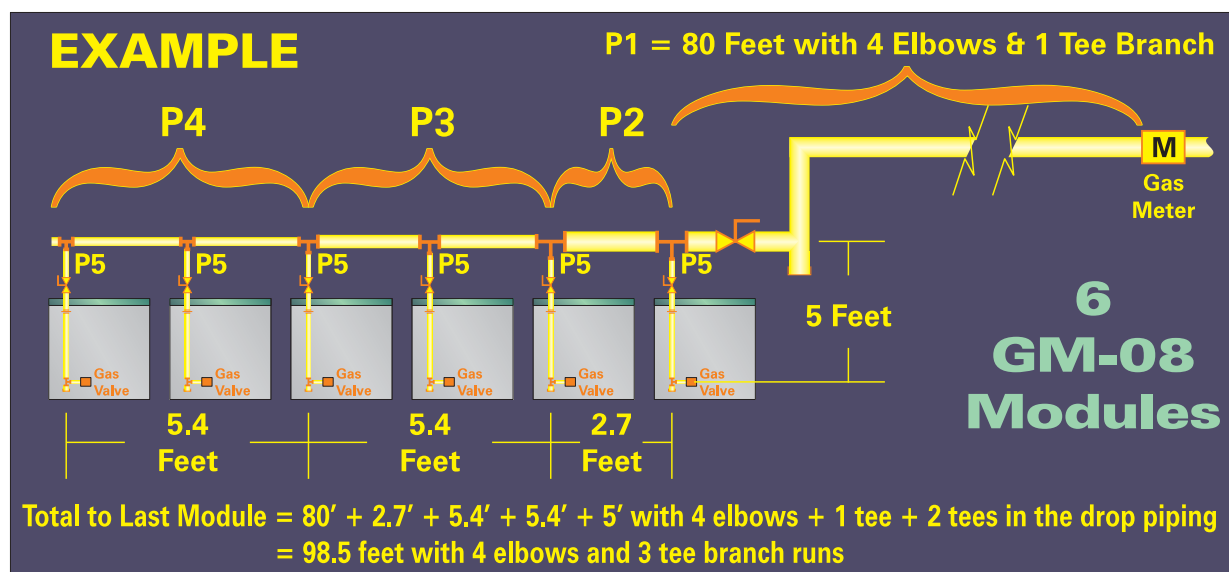

Figure 7.2: Gas Pipe Sizing Example
1. Figure 7.2 is a schematic piping diagram of (6) Natural Gas GM-08 modules on 32 inch centers as shown. The example will be for natural gas at 0.60 specific gravity.